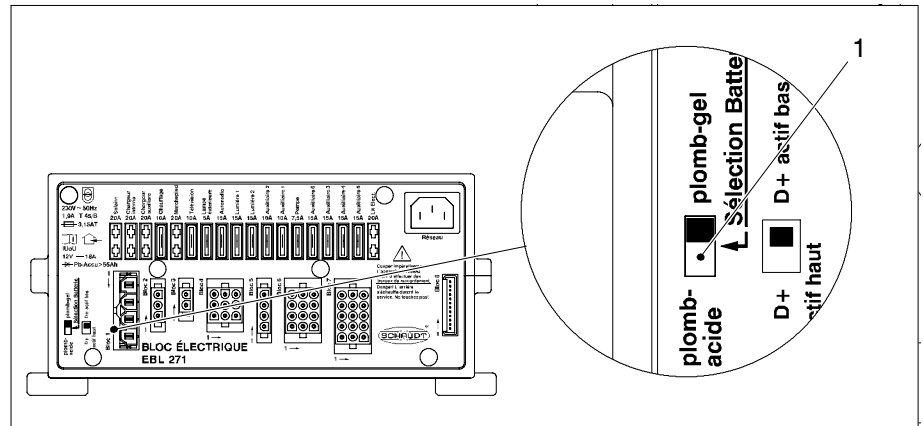

Fig. 1 Battery selector switch
► Move the battery selector switch (Fig. 1, Pos. 1) into the correct position: